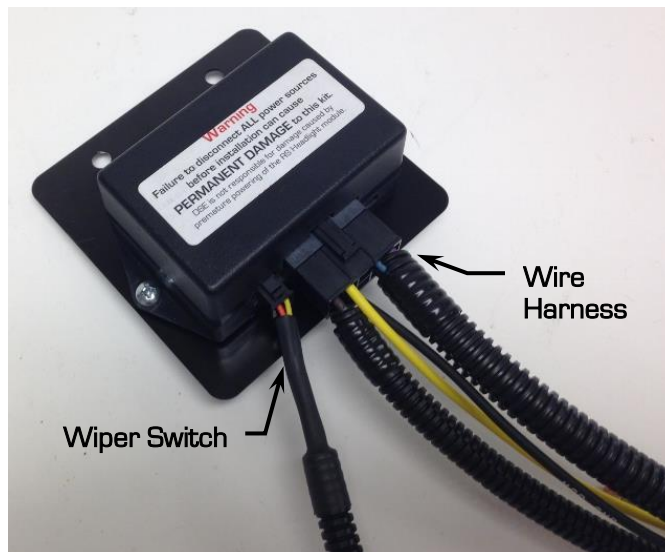

Figure 10 – Connect Wiper Switch & Harness to Module
16. With the wiper control module in place, plug in the wiper switch and wiring harness connectors into the control module (Figure 10).